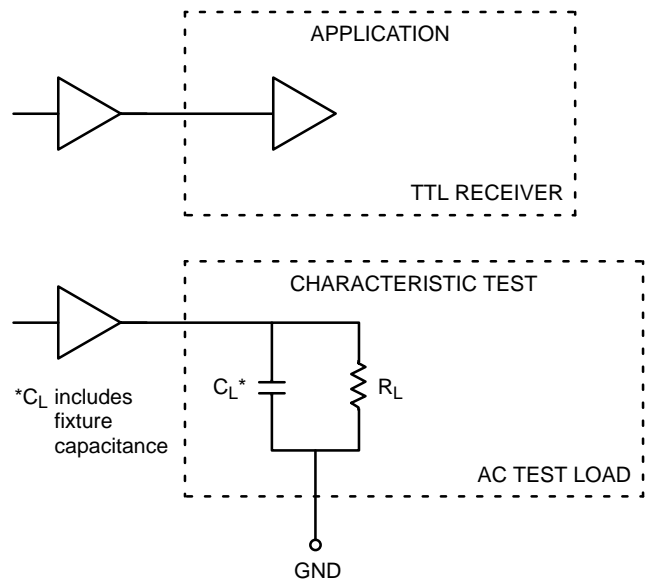

Figure 3. TTL Output Loading Used for Device Evaluation
6. Measured with a 750 mV 50% duty-cycle clock source.  $R_L = 500\text{ }\Omega$  to GND and  $C_L = 20\text{ pF}$  to GND. Refer to Figure 3.